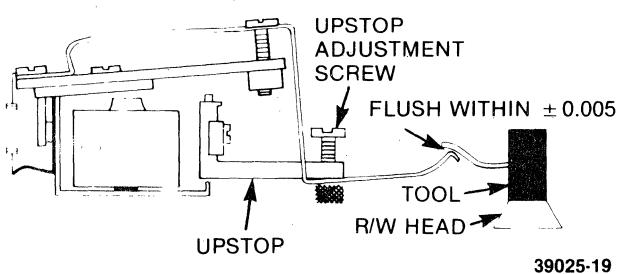

FIGURE 5-3. HEAD LOAD ACTUATOR UPSTOP ADJUSTMENT
- c. Adjust down stop so that top of Head Load Bail is flush with top of tool within ± 0.005 inch at track 76. See figure 5-3.